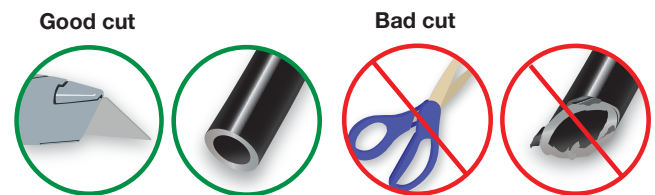

Fig. 24
2. Make clean, square cuts with a razor blade or hose cutter when cutting the air line (Fig. 24). Do not use scissors or wire cutters.